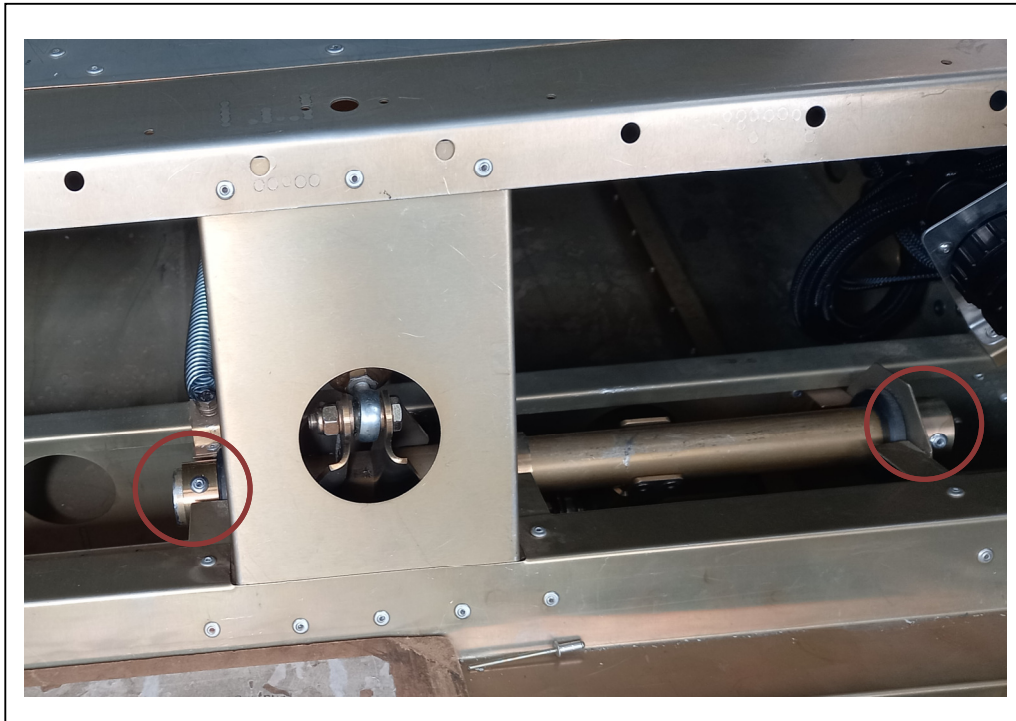

Figure 3: Elevator torque tube with elevator torque tube locking bushes installed
- Step 3. If you struggle to see if the elevator torque tube locking bushes are installed through the inspection hatches in the baggage compartment, remove the rear seats. To remove the rear seats, refer to section 4.2.2.2 in the Sling 4 TSi Maintenance Manual (DC-MAM-001-X-F). For convenience, this section can be found in Appendix A of this document. Once the seats have been removed, inspect the elevator torque tube to see if the locking bushes are installed. Refer to Figure 3.